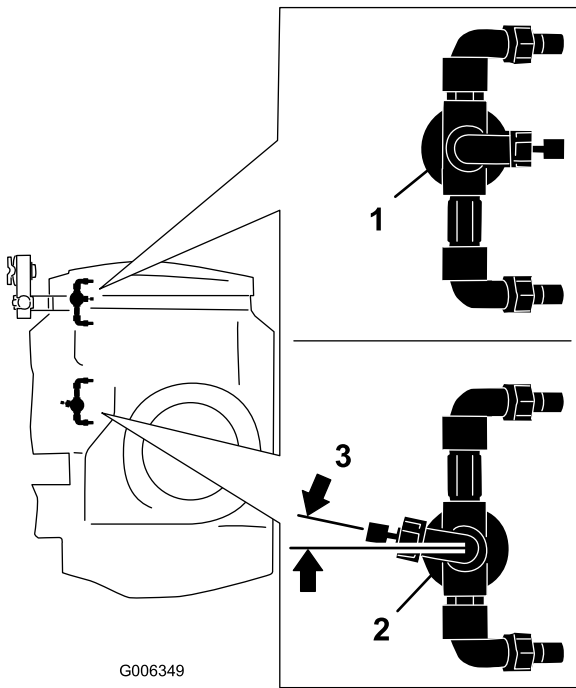
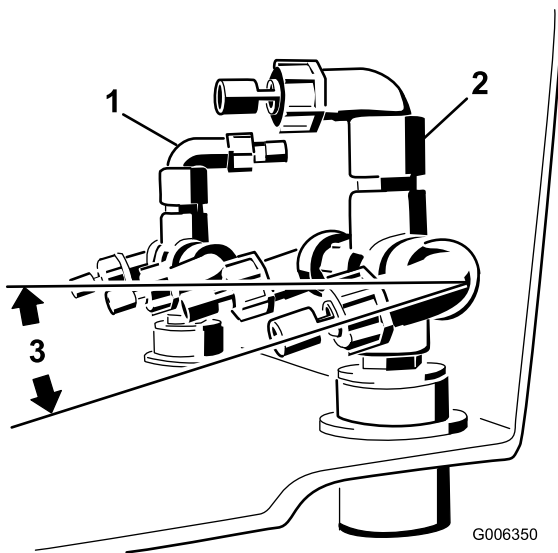

Figure 3
Figure 4
- 2. Adjust the loose fitting so that the nozzles on the forward and rear are set to the approximate degrees shown in Figure 3 and Figure 4.